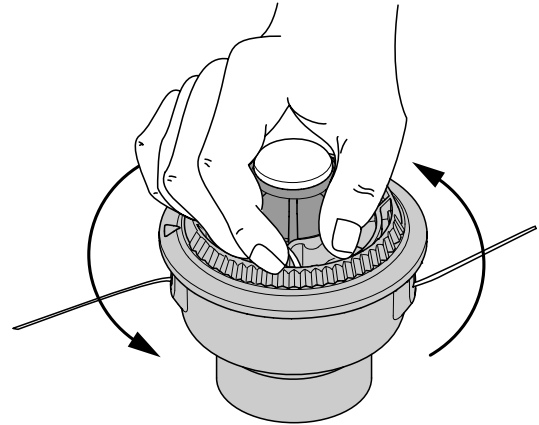

Fig. 40
8. Hold the outer spool. Wind the inner reel counterclockwise until approximately four (4) inches (102 mm) of line remain (Fig. 40).